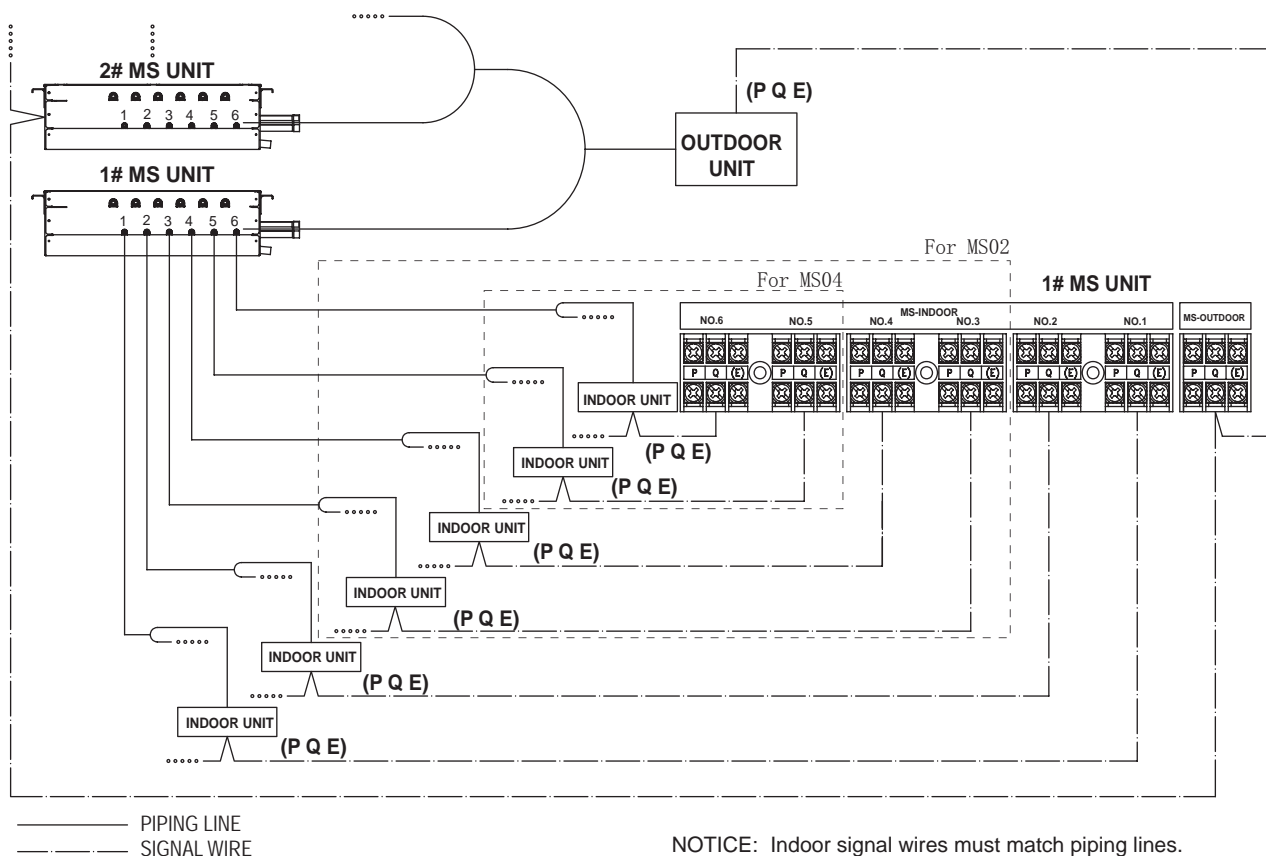

Fig.7-1
3. The MS power wire should be connected to the terminals with the label "L, N", and the MS signal wire should be connected to the terminals with the label "P, Q, E" and correspond to the "P, Q, E" wiring terminals for the outdoor and indoor units, which can not be wrong connected. Please refer to the following figure 7-1.